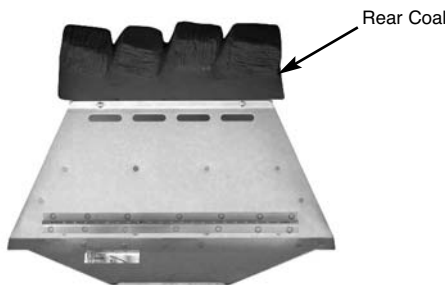

Fig. 85
1. Place the rear coal on the rear coal retainer ledge in a central position (Fig. 85).